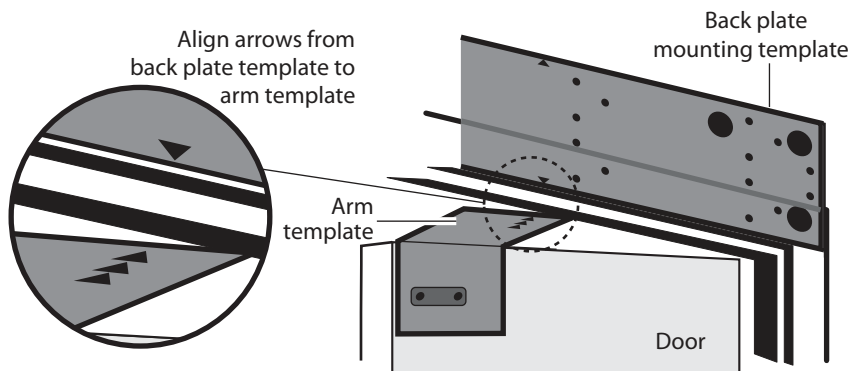

Figure 1.11
7. Peel off the adhesive strips from the back off the Arm Template and carefully place it in position on the door as shown in See Figure 1.11 on page 1-14. Follow the instructions on the arm template.